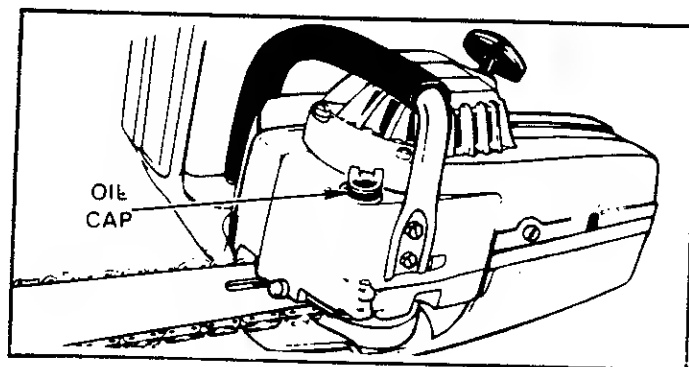

Figure 14
- Loosen cap slowly and wait for pressure in the tank to be released before removing the cap. Figure 14.